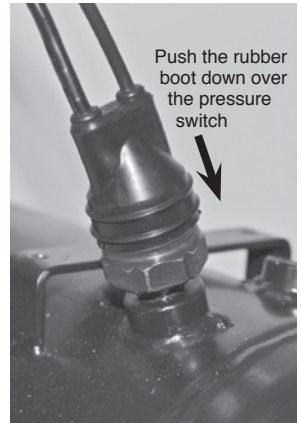

Fig. 9
WIRING COMPRESSOR (Fig. 7 through Fig. 9):
13. Push the rubber boot onto the pressure switch (Fig. 9).